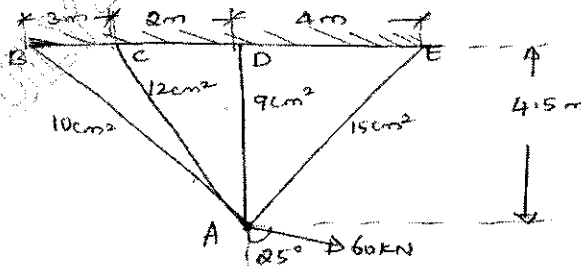

Fig.Q.6
- 6 Find forces in all members for the given pin jointed frame shown in Fig.Q.6 and also displacement of joint A. Take $E = 200\text{GPa}$. (16 Marks)